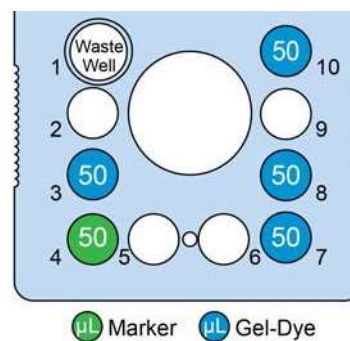
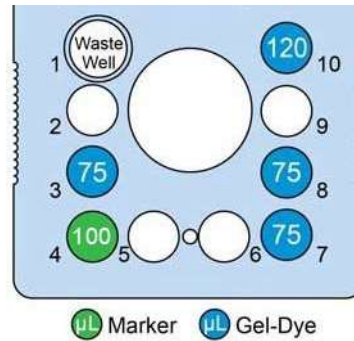

Figure 2. Low-Throughput Chip Preparation
Figure 3. High-Throughput Chip Preparation
- 5 Using a reverse pipetting technique, add **Gel-Dye solution** to chip wells 3, 7, 8, and 10 as shown in Figure 2 (Low-throughput) or Figure 3 (High-throughput).
- 6** Add **50 µL** (Low-throughput) or **100 µL** (High-throughput) of **ssDNA Marker** (green cap ●) to **chip well 4** as shown in Figure 2 or Figure 3.